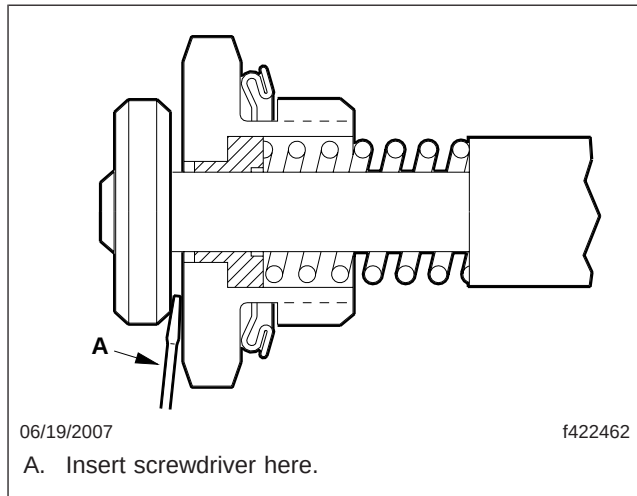

Fig. 1, Disengaging the Pull-Pawl
5. Using a screwdriver, pry the pull-pawl button out at least 1/32 inch (0.8 mm) to disengage the pull-pawl teeth from the slack adjuster actuator. See Fig. 1. Wedge the screwdriver in place. The pull-pawl will need to be disengaged until the brake adjustment is complete.